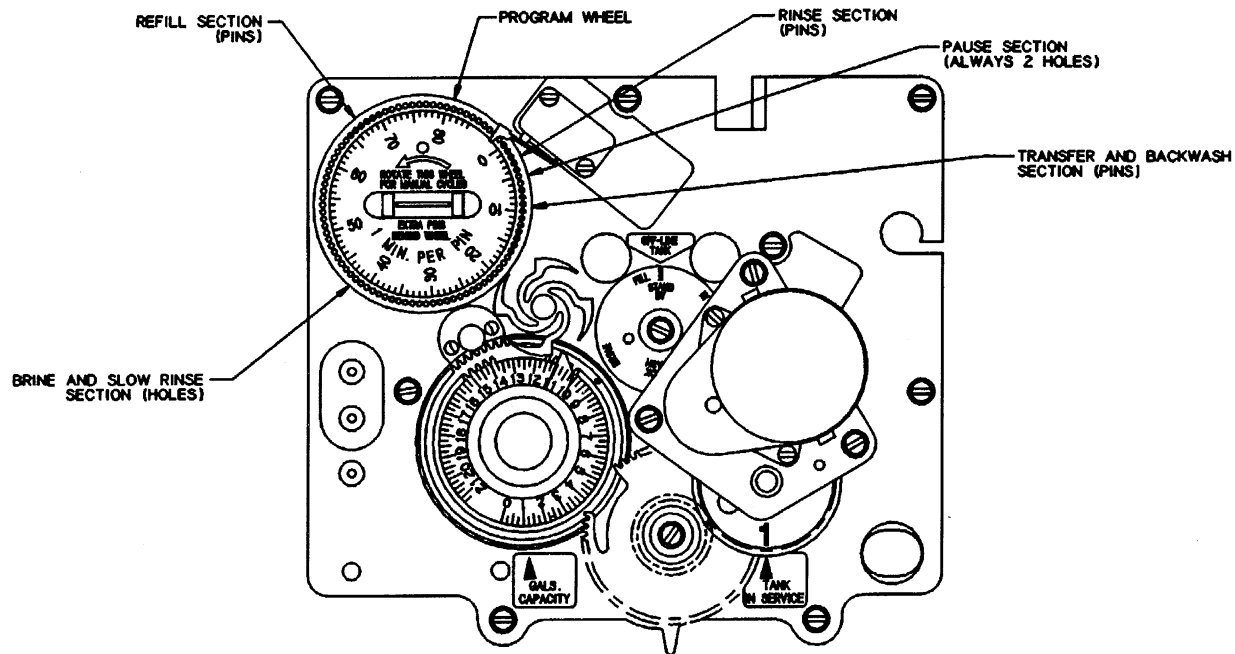

Fig. 1
13. The control valve has indicators which tell you which position the control valve is in during regeneration and which tank is IN SERVICE. Fig. 1 indicates that tank #1 is supplying conditioned water. (Tank #2 is on standby or being regenerated).
The program wheel as shown in FIG. 1 is in the stand-by position. As you look at the numbered side of the program wheel, the group of pins starting at zero determines the length of time your control will rinse the off-line tank.
5. **NOW** set Meter wheel at 950 gallons. Lift the inner dial of the meter program wheel so that you can rotate it freely. Position the white dot at the 950 gallon setting (see Fig.1).